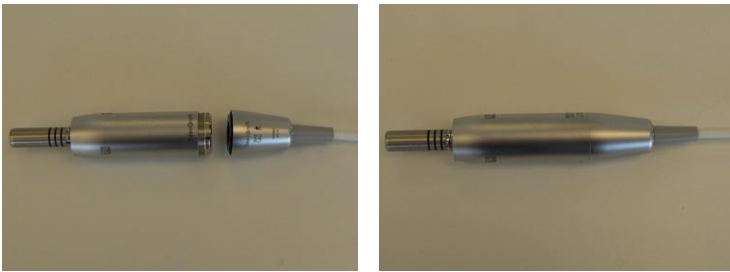

Figure 3-49. Pushing the Handpiece Motor into the Handpiece Cable Connector
5. Connect the handpiece motor to the handpiece cable connector, by pushing the motor into the connector, as shown in Figure 3-49.